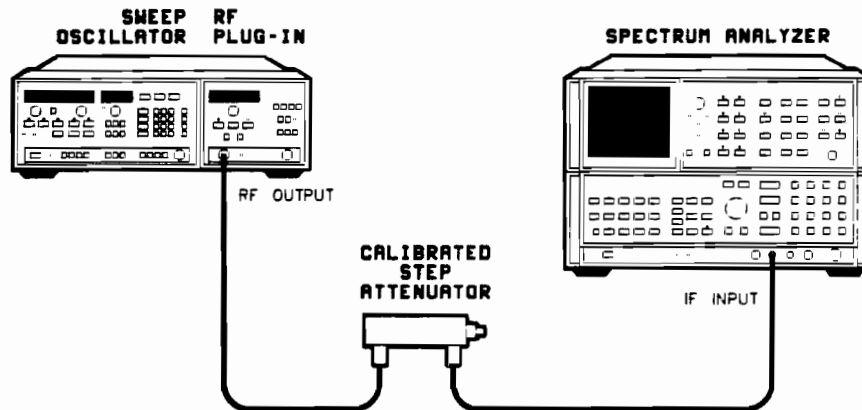

Figure 4-11. Step Attenuator Accuracy Test Setup
1. Connect the equipment as shown in Figure 4-11. Turn the instruments on and allow a 1 hour warm up.